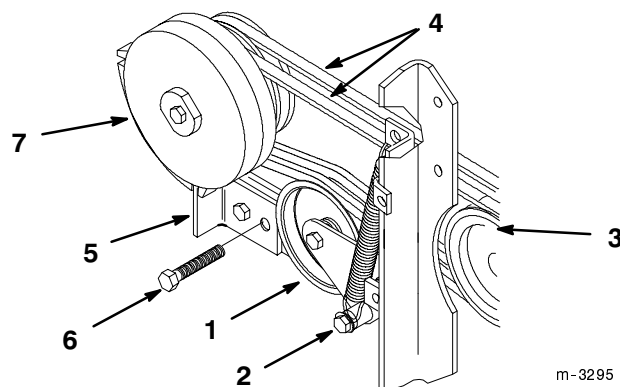

Figure 81
1. Hold spring loaded idler against belts and pull spring down to remove from lower bolt mount (Fig. 81).
2. Lower idler to relax tension on PTO belts and remove belts from gear box pulley (Fig. 81).
3. Remove clutch stop mounting bolts and unplug clutch wire harness (Fig. 81). Remove belts over clutch.
5. Hold spring loaded idler against belts and pull spring down to install on lower bolt mount (Fig. 81).
6. Install clutch stop (Fig. 81). Tighten mounting bolts securely.